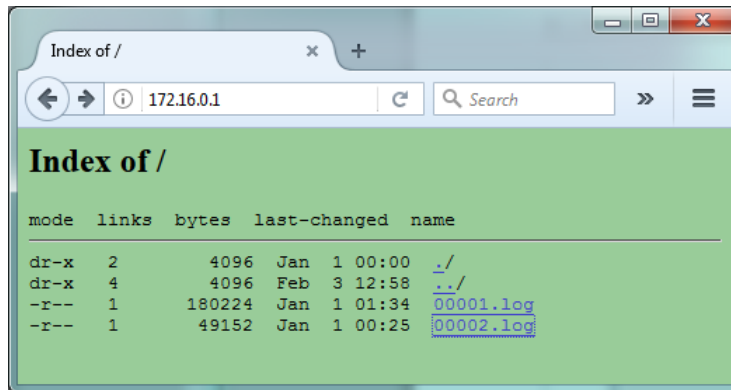

Figure 14: List of Log Files in the Web Browser
- Then the web browser should show the list of log files available on the Master Display Unit, like in Figure 14. Each log file has a hyperlink in the list. Use the web browser to download log files to the local computer. The log files are named in chronological order: the Master Display Unit will start from 00001.log when it is powered on for the first time. Then the next time it starts, it generates a new log file named 00002.log. The log file with the biggest number is the current log file that the Master Display Unit is writing to. It will be updated every a few minutes as aforementioned.